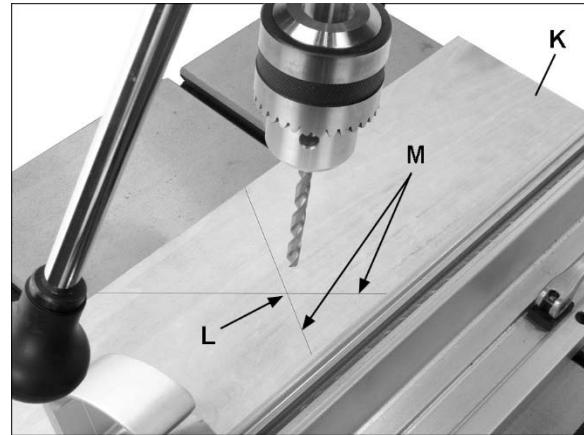

Figure 24
6. Place board (K, Figure 24) flat on table. Do not allow board to move from this position; use clamps if needed. Bring the bit down until it leaves a slight perforation in the board; then raise it back up.
8. Adjust the other laser assembly in the same manner until the laser lines form cross hairs exactly over perforation in board, as shown in Figure 24.